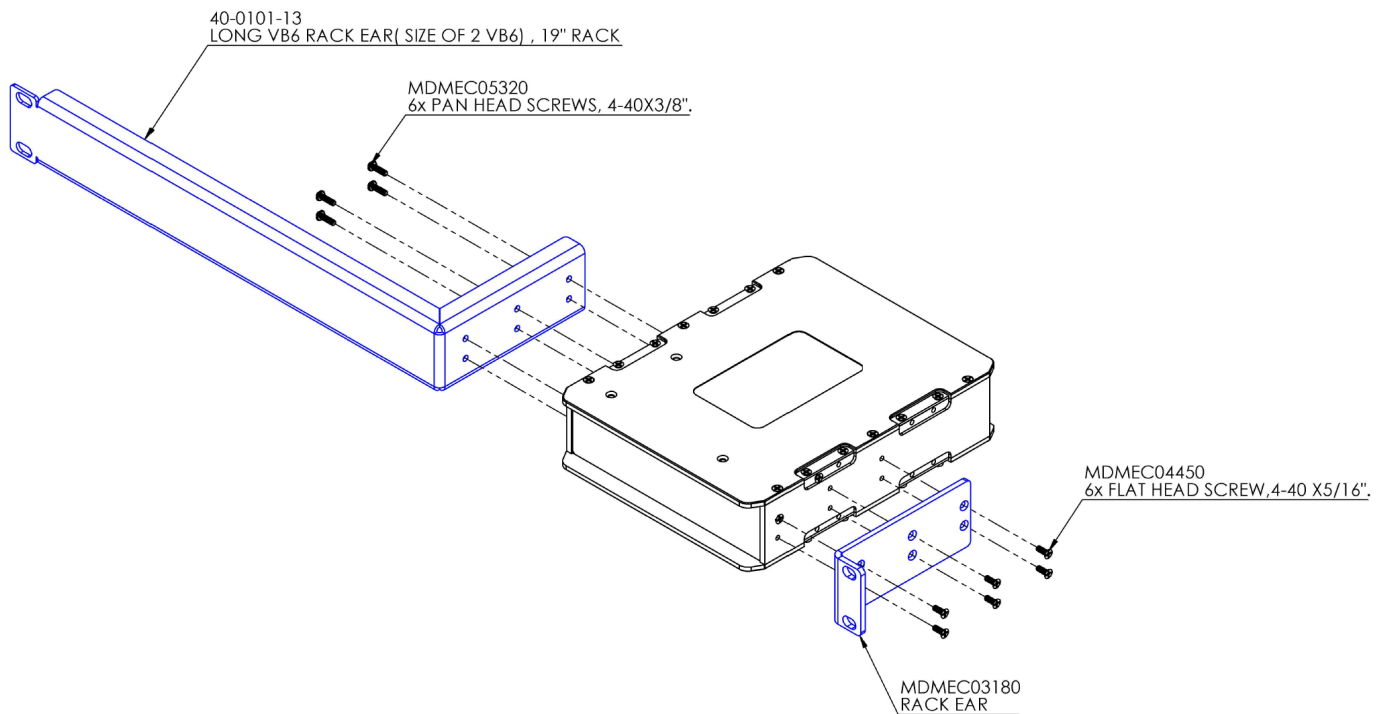

Figure 21. Single VBx Box Horizontal Rack Mounting.
1. Install coupling tabs with (4) 5/16" 4-40 screws each. Two (2) tabs are required on both the top and bottom sides.
3. Add rack ears as shown in Figure 21.